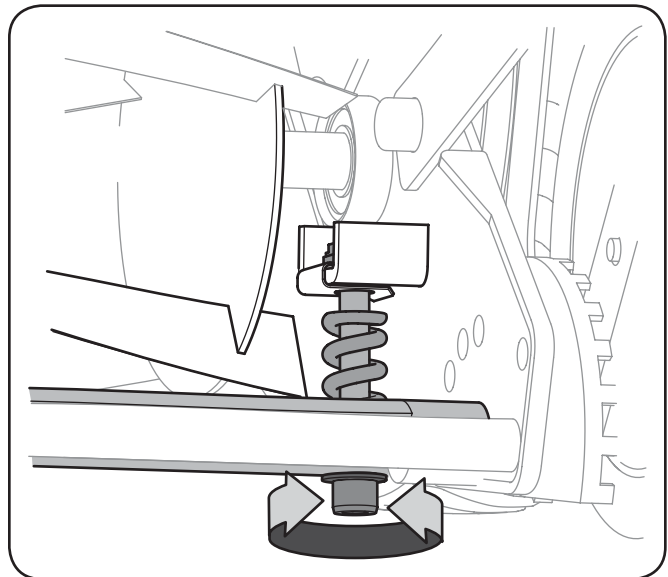

Figure 5-1
2. Using a 6mm hex key, tighten the adjustment bolts (one on each end) 1/4-turn. See Fig. 5-1.